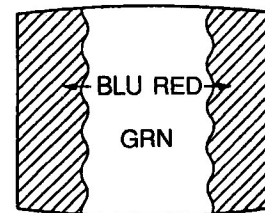

Fig.3-2
- Move the deflection yoke backward, and adjust with the purity control so that green is in the center and blue and red are at the sides, evenly. (Fig.3-2)